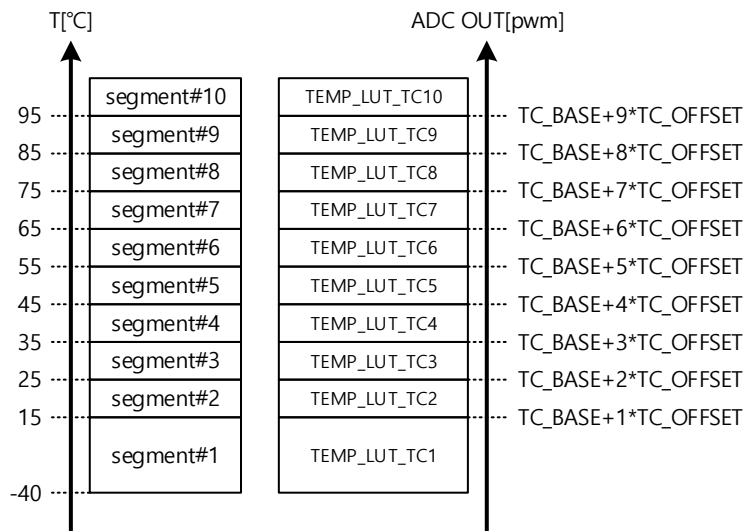

Fig 29. Scaling equation with RED Temperature Compensation Table
(1) Red LED Temperature Compensation
The luminous intensity of typical red LEDs shows a significant temperature-dependency that is almost linear. The ID804 provides a feature to compensate this effect. For that purpose, the on-chip temperature sensor measures the chip temperature. Measured temperature value is used as a point to a lookup table. The lookup table is configured by MCU. In below figure, TC_BASE and TC_OFFSET values are stored in OTP. TEMP_LUT_TCx register value is written by MCU through SET_TEMP_LUT_TCx. The lookup table coefficient(TC) is used to RED color PWM scaling like below Fig 29 equation. For example, if the measured chip temperature value is in segment #5 in below figure, the TC value in Fig 29 is TEMP_LUT_TC5. This temperature compensation function can be enabled or disabled by SETUP1.TC_E register setting.